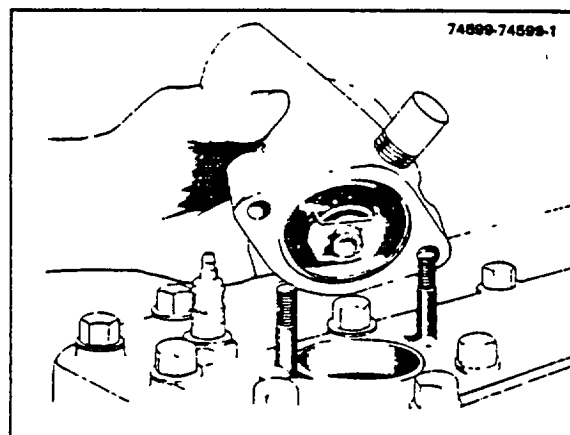

Figure 4-2. Replacing Thermostat
5. Assemble new gasket to cylinder head, position water outlet elbow on studs, and secure with two nuts and lockwashers (Figure 4-2).